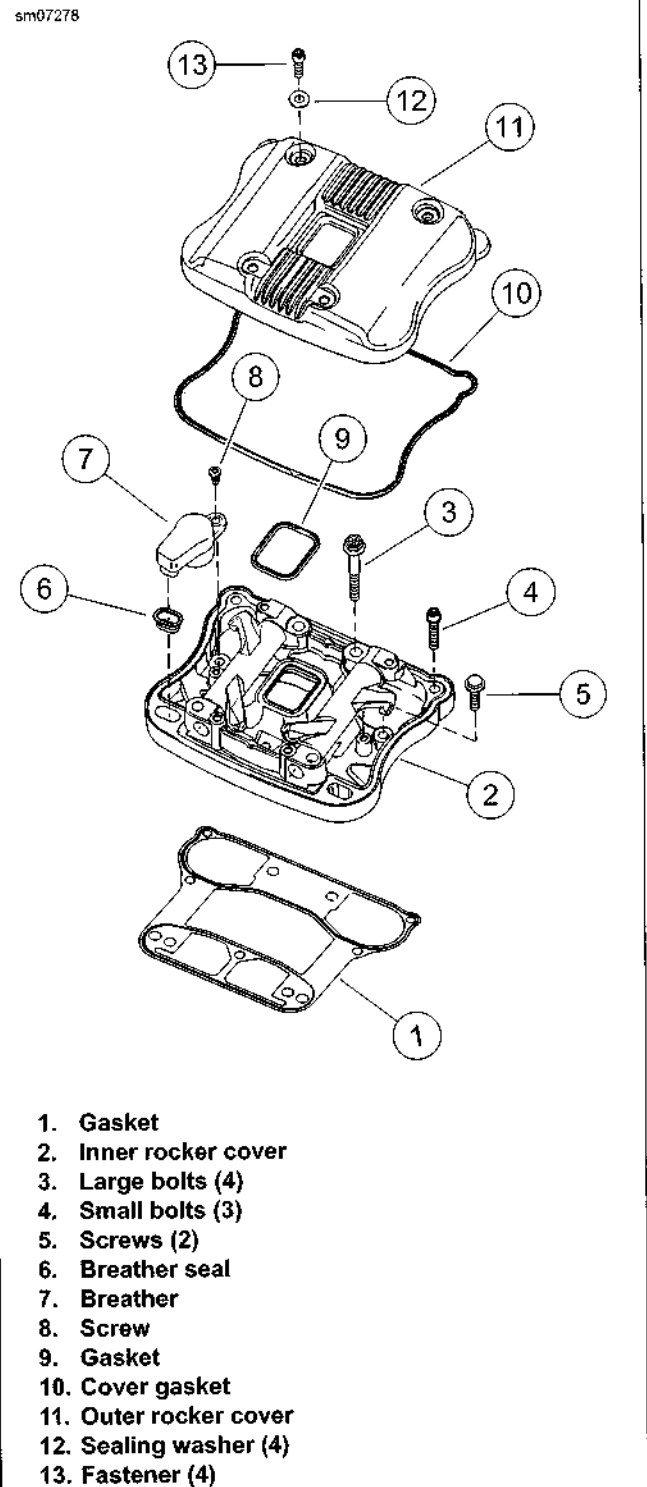

Figure 3-76. Rocker Cover
2. See Figure 3-76. Install new gasket (1) with FRONT HEAD facing up on the front head and REAR HEAD facing up on the rear head.
3. Install the inner rocker cover assembly (2) (with rocker arms and shafts). Fit the ends of the pushrods in the rocker arm sockets.
2. See Figure 3-76. Install breather (7) with new breather seal (6).
3. Install screw (8). Tighten to 35-55 in-lbs (4.0-6.2 Nm).
2. See Figure 3-76. Install outer rocker cover (11) on inner rocker cover. Install fasteners (13) with captive washers and **new** sealing washers (12).